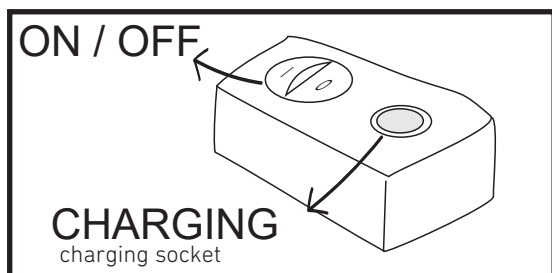

Fig. 4
1. The control panel is located inside the product (Fig. 4).